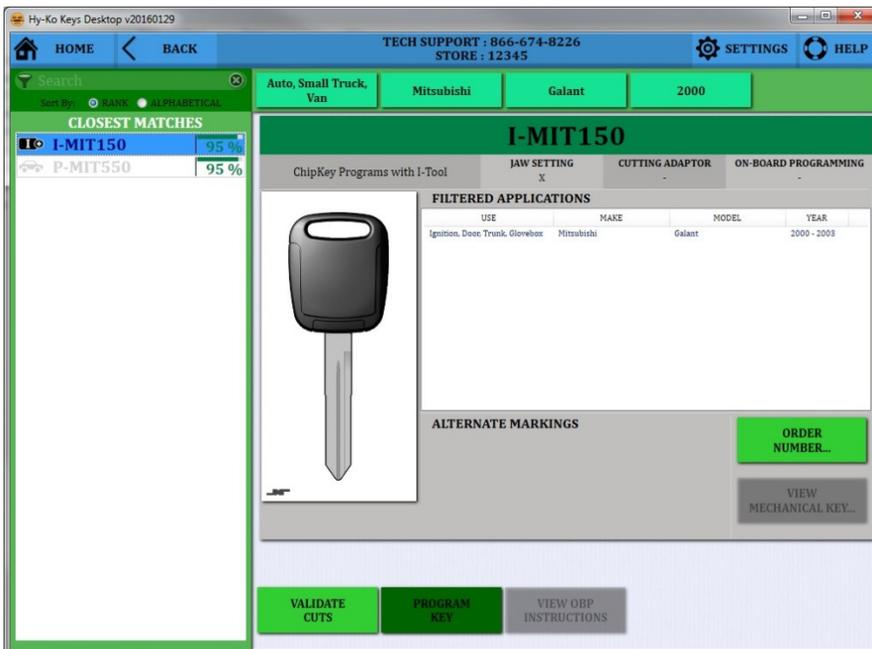

fig. 72
- Click on any key number to see the information on that particular key. An image of the blank and the cross section will be shown as well as other manufacturer part numbers and applications (see fig. 72).